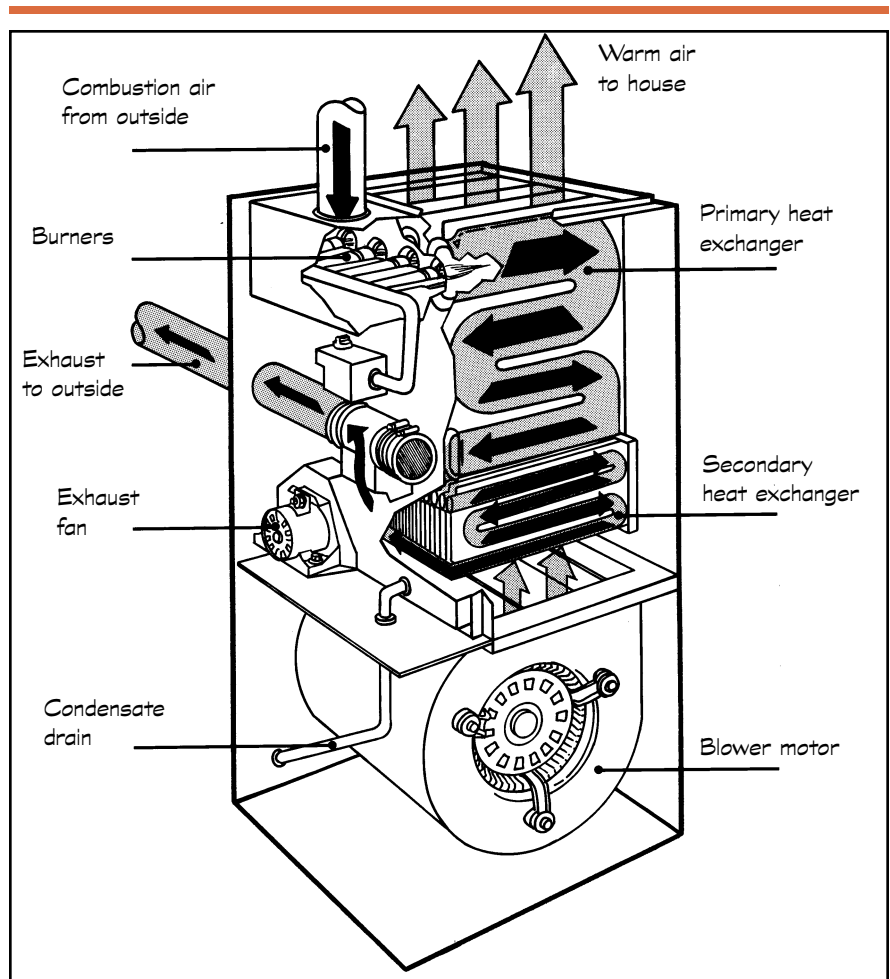

Figure 1
**Furnace efficiency.** The Energy Information Center recommends that you look for a furnace with an AFUE (annual fuel-utilization efficiency) of more than 90 percent and a sealed combustion system (see figure 1). In addition, consider buying a furnace with a variable speed blower motor to improve electrical efficiency. Our recommendation for boilers is an AFUE of 84 percent or greater, with a sealed combustion system or a mechanical exhaust. If a high efficiency heating system is out of your price range, consider those furnaces and boilers with mechanical venting (see description of mechanical venting further on in this booklet). The more efficient a unit, the more heat (Btus) you will receive from your fuel. See the Sidebar on Understanding Efficiency Ratings. Remember, however, that an efficient heating system is only one component contributing to your home’s efficiency.
Some of the features to look for in a new furnace are described below and illustrated in Figure 1.